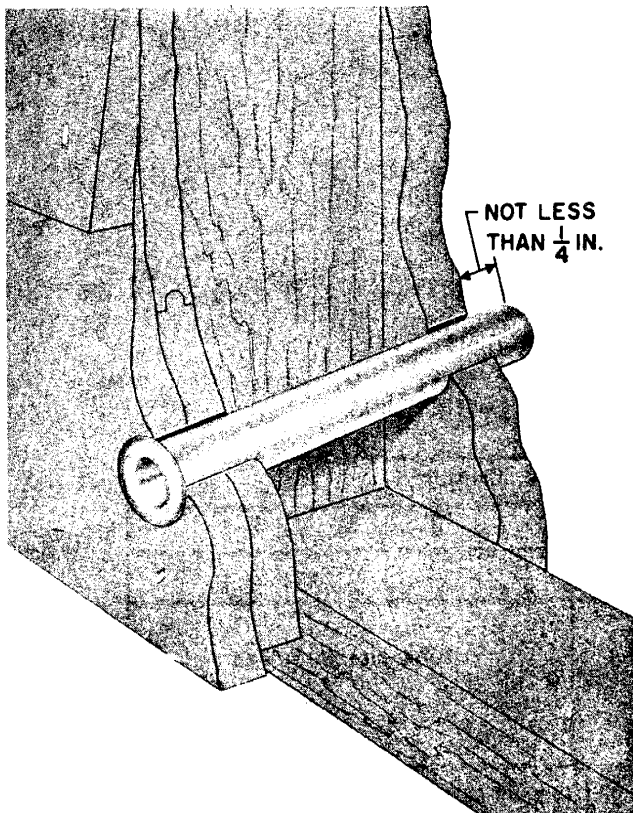

Fig. 18 – Placing Tube
13.01 Use plastic tubes at building entrance holes for drop wire where fused protection is required and the wire passes through a flammable surface. Place tube as shown in Fig. 18. Cut plastic tubes with a hack saw or diagonal pliers. Do not use split tubes at entrance holes.